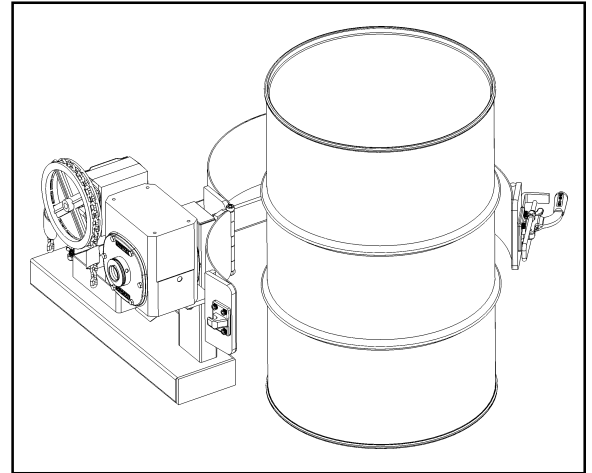

Figure 4.1
2. Drive the forklift forward to slip the forks into the fork tubes (see item 24). Tighten tee screws (item 25) to secure the Forklift-Karrier to the forks. Transport Forklift-Karrier to drum to be handled.
3. Release the Toggle Clamp (item 7) on the drum holder and allow the saddle bands (items 5 and 12) to remain open.
4. Drive the forklift with the Forklift-Karrier near floor level to position the saddle band (item 2) around the middle of the drum between the ribs (figure 4.1).
6. Remove pull chain (item 29) from chain box on base frame and place end of chain loop near operator's seat.
8. To pour drum: pull on chain (item 29), rotating drum to angle required for dispensing. To control the pouring angle of the drum, pay out one side of chain and pull the other side to prevent the drum from free-wheeling.